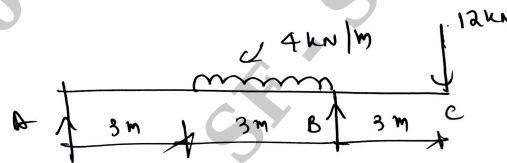

Fig.Q9(b)
- b. An overhanging beam ABC is loaded as shown in Fig.Q9(b). Determine the slope and deflection at its free end C. Take  $E = 2 \times 10^5 \text{ N/mm}^2$  and  $I = 5 \times 10^8 \text{ mm}^4$ .